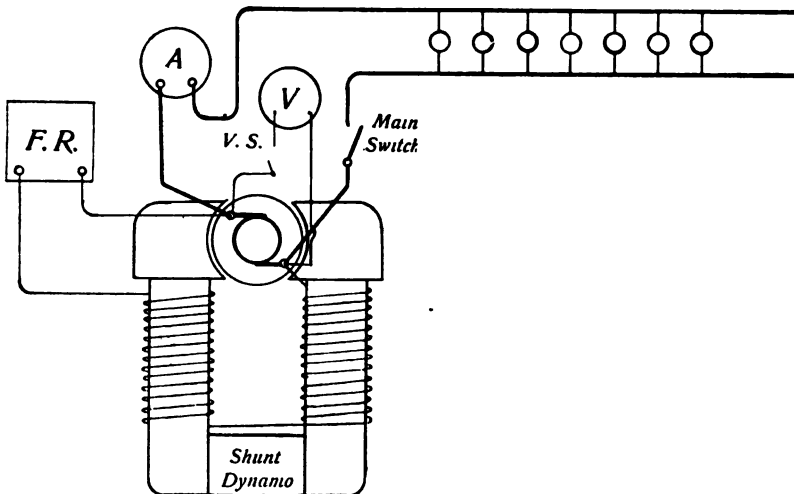

FIG. 8.—Shunt Wound Dynamo on a Constant Potential Circuit.
*Fig. 8 illustrates the above.*